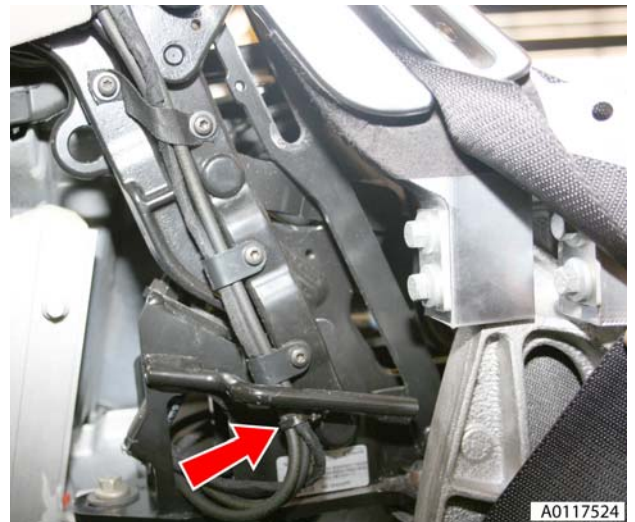

Figure 4
7. Remove cable ties securing pipes to roof frame (see Figure 4).